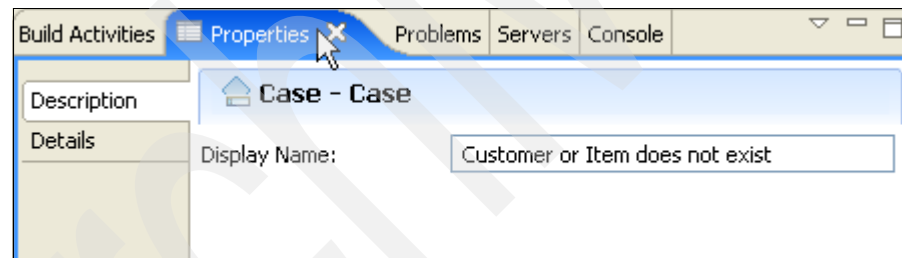

Figure 3-27 Setting the Display Name of a Case element
3. Switch to the Description tab and set the Display Name to Customer or Item does not exist, as shown in Figure 3-27.